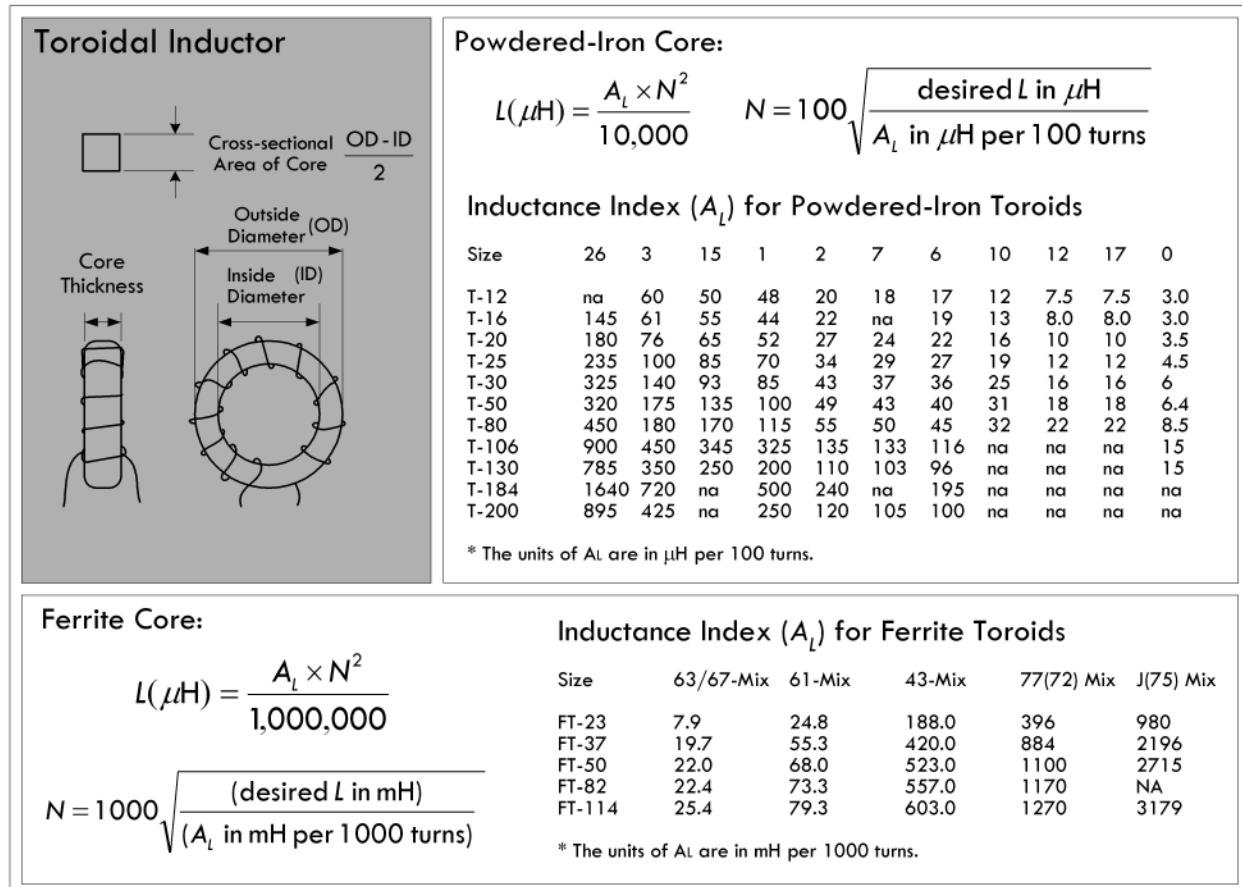

FIGURE 2.133
Powdered iron	Ground-up iron (powder) mixed with a binder or insulating material reduces eddy currents significantly, since the iron particles are insulated from one another. Permeability is low compared to iron core due to insulator concentration. Slug-tuned inductors, where the slug is powdered iron can be made adjustable and are useful in RF work, even up to the VHF range. Manufacturers offer a wide variety of core materials, or mixes, to provide units that will perform over a desired frequency range with a reasonable permeability. Toroidal Cores are considered self-shielding. Manufacturers provide an inductance index $A_L$ for their toroidal cores. For powdered-iron toroids, $A_L$ provides the inductance in $\mu\text{H}$ per 100 turns of wire on the core, arranged in a single layer. Formulas found in Fig. 2.133, and example problems 5 and 6 illustrate how to calculate inductance of a powdered-iron toroidal inductor.
Ferrite	Composed of nickel-zinc ferrites for lower permeability ranges and of manganese-zinc ferrites for higher permeabilities, these cores span the permeability range from 20 to above 10,000. They are used for RF chokes and wideband transformers. Ferrites are often used, since they are nonconductors and are immune to eddy currents. Like powdered-iron toroids, ferrite toroids also have an $A_L$ value provided by the manufacturers. However, unlike powdered-iron toroids, ferrite $A_L$ values are given in $\text{mH}$ per 1000 turns. Formulas found in Fig. 2.133 and example problems 7 and 8 illustrate how to calculate inductance of a ferrite toroidal inductor.
**Answer:** To solve this you'd have to consult the manufacturer's data sheets, but, here, use a T-12-2 from the table in Fig. 2.133. Using the equation for powdered iron toroids in Fig. 2.133, and inserting  $A_L = 20$  for the T-12-2, and  $N = 100$ :
**Answer:** To solve this you'd have to consult the manufacturer's data sheets, but here we'll use a FT-50 with 61-Mix, as shown in the table in Fig. 2.133. Using the
equation for ferrite toroids in Fig. 2.133, and inserting  $A_L = 68$  for the FT-50-61, and  $N = 50$ :